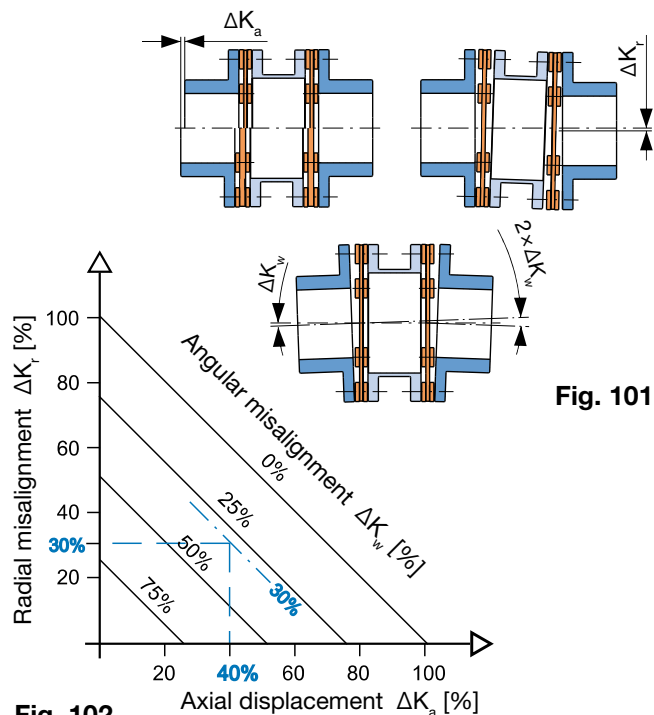

Fig. 102
- If more than one kind of misalignment takes places simultaneously, they influence each other. The permitted misalignment values are dependent on one another, see Fig. 102. The sum total of the actual misalignments – in percent of the maximum value – may not exceed 100 %.
Example (see Table on page 28 and Fig. 102):